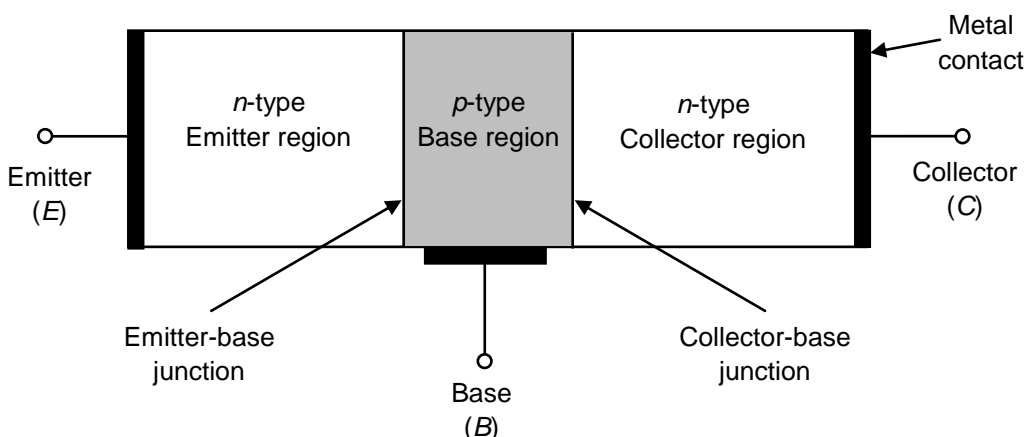

Fig. 3.2: Structure of an  $n$ - $p$ - $n$  transistor.
So, in a bipolar junction transistor, there are **three regions doped alternately** by  $n$ -type and  $p$ -type impurities to create an  $n$ - $p$ - $n$  or a  $p$ - $n$ - $p$  type of structure. Fig. 3.2 shows the structure of an  $n$ - $p$ - $n$  transistor.
The three regions ( $n$ ,  $p$  and  $n$ ) shown in Fig. 3.2 are called **emitter (E)**, **base (B)** and **collector (C)**, respectively. So, the BJT is a **three-terminal device** with the electrical contact terminals attached to the emitter, base and collector. Sometimes, this is indicated by the letters E, B and C marked on the transistor.
The emitter, base and collector regions in a transistor are doped differently and have different widths. The emitter is doped heavily because its role is to 'emit' or inject charge carriers into the base region. The base region is lightly doped and is made very thin so that the heat loss due to recombination of charge carriers in it is reduced. The collector's doping levels lie between those of the emitter and the base. The collector is the largest of the three regions because it collects the charge carriers and has to dissipate more heat than the emitter or base. As you can see in Fig. 3.2, the transistor has two  $p$ - $n$  junctions – one  $p$ - $n$  junction is between the emitter and the base and the other  $p$ - $n$  junction is between the base and the collector:
- a) Draw a labelled diagram showing the structure of a  $p$ - $n$ - $p$  transistor in the manner shown in Fig. 3.2 for an  $n$ - $p$ - $n$  transistor.